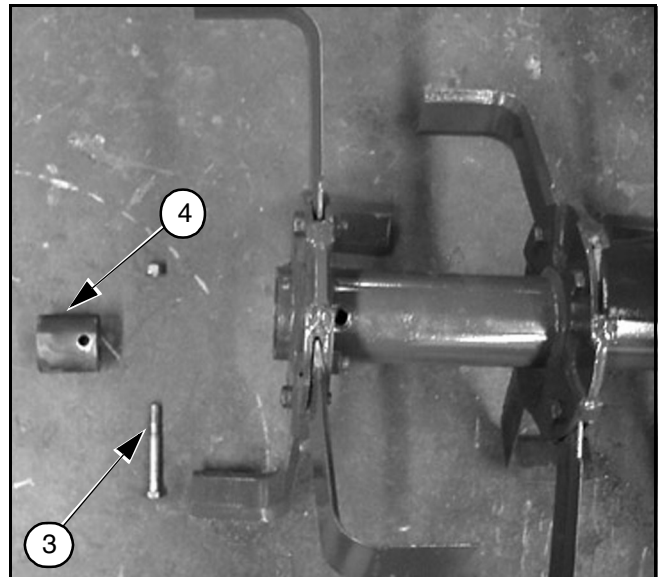

Figure 8.
Remove the coupler bolt (3) and the coupler (4) from both sides of the drum as shown in Figure 8.